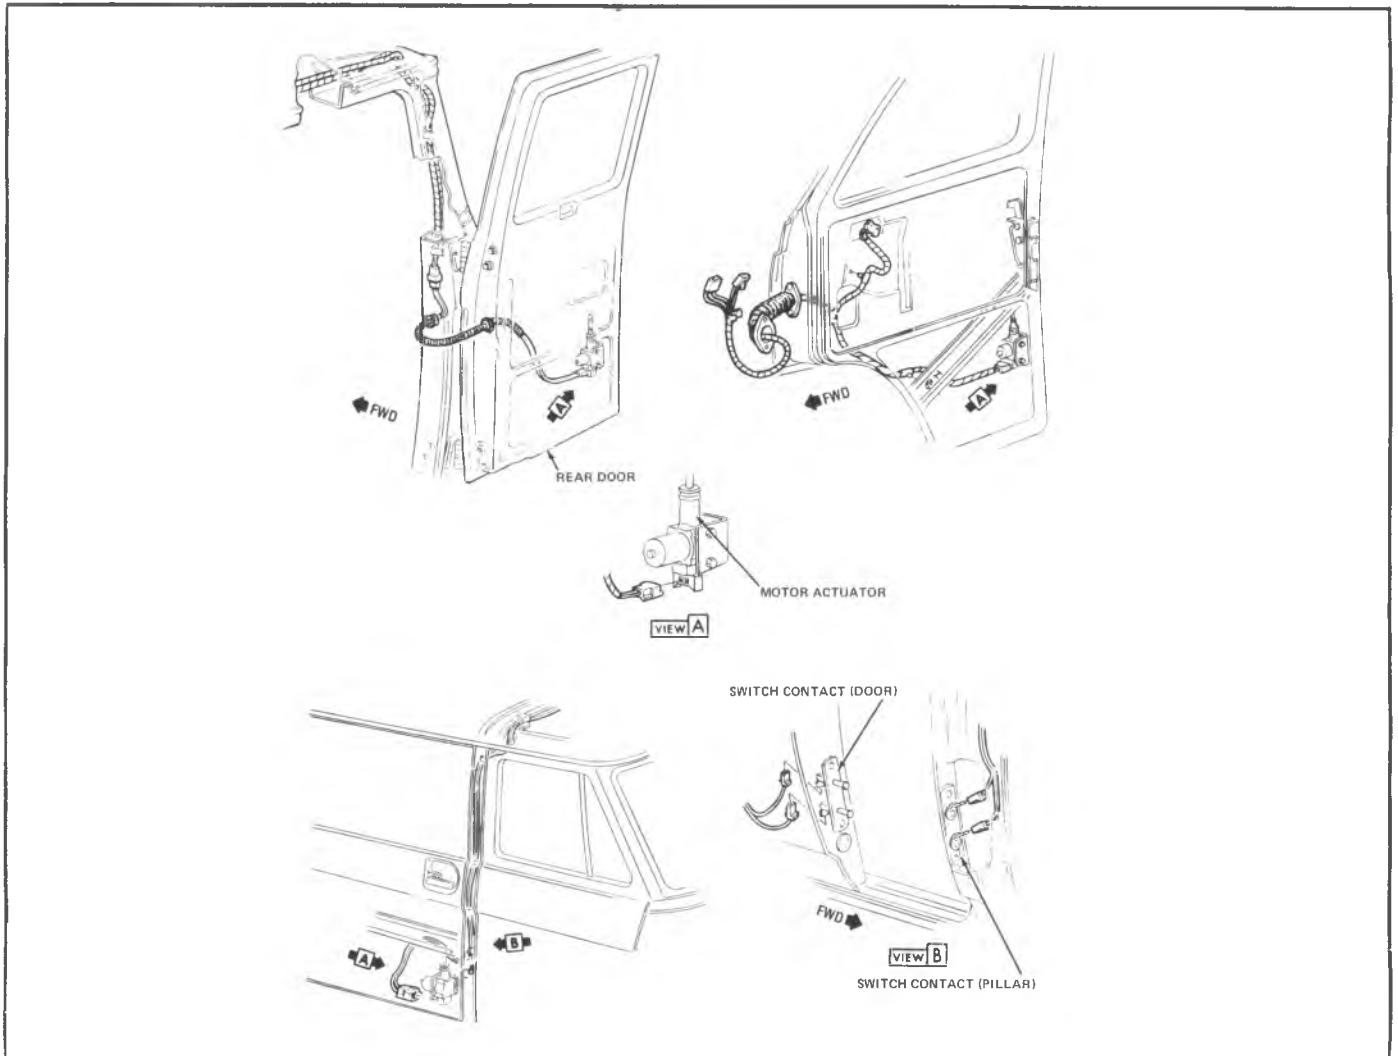

Fig. 2D-116--Power Door Lock Actuators
#### LOCK CYLINDER ASSEMBLY—FIG. 2D-115
The side door can be adjusted for alignment and/or clearance in the body opening and for proper latching. When properly positioned in the body opening, the door should have equal clearances around its perimeter. Adjustments for door positioning and proper latching can be made at the locations shown in figure 2D-117.
Up and down adjustments are provided by means of slotted holes located at the upper front roller, view B of figure 2D-117; at the lower front catch-and-roller, view D; and at the upper rear hinge-and-roller assembly, view A. To reposition the door up or down:
2. Remove upper rear hinge cover, shown in figure 2D-118.